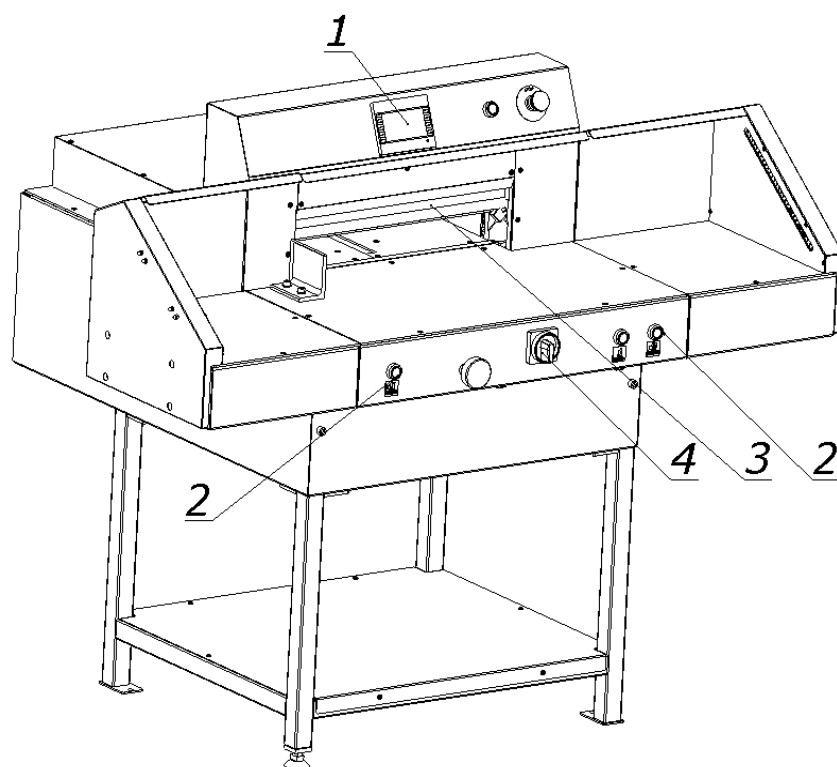

Figure 20.
8.1.1.1 Select the "Change knife" function on the programmer 1 screen (Fig.20) ("Programmer's manual").
8.1.1.2 Pressing the push buttons 2  (fig.20) at the same time, start the cutting cycle. The knife 3 is held in the lower position.
8.1.1.3. Turn off the power supply of the electrical system by turning the main switch knob 4 (fig.20) to the "0" position